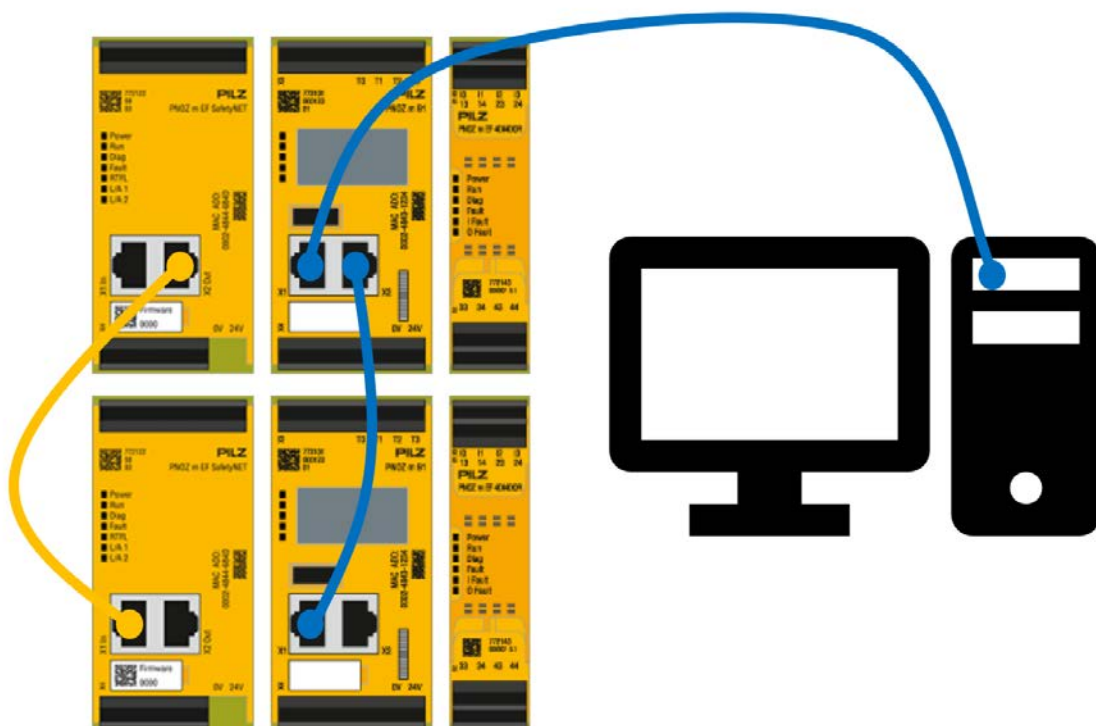

Figure 1: Application – Structure of the hardware (schematic)
- ▶ If this has been done for both projects, both devices can now be connected to the configuration PC, as shown in [Figure 1: Application – Structure of the hardware \(schematic\) \[7\]](#).